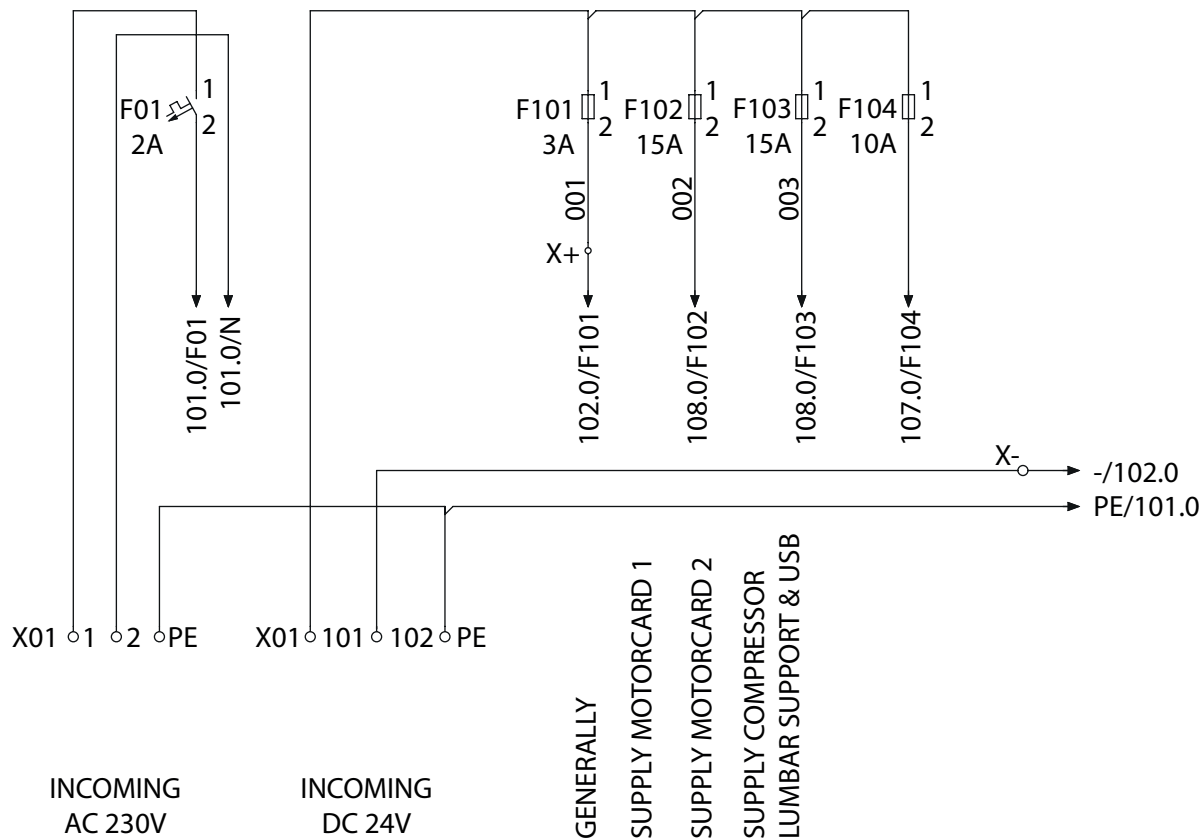

Figure 10. Connection diagram
5. Connect the connecting wires to the intended terminals or plugs/sockets as per the connection diagram (*Figure 10 "Connection diagram"*), the related circuit diagrams (*see chapter 11. "Reference documents", page 71*) and the requirements of the operating organization. Make sure all wires are laid without kinks or points where they can chafe.